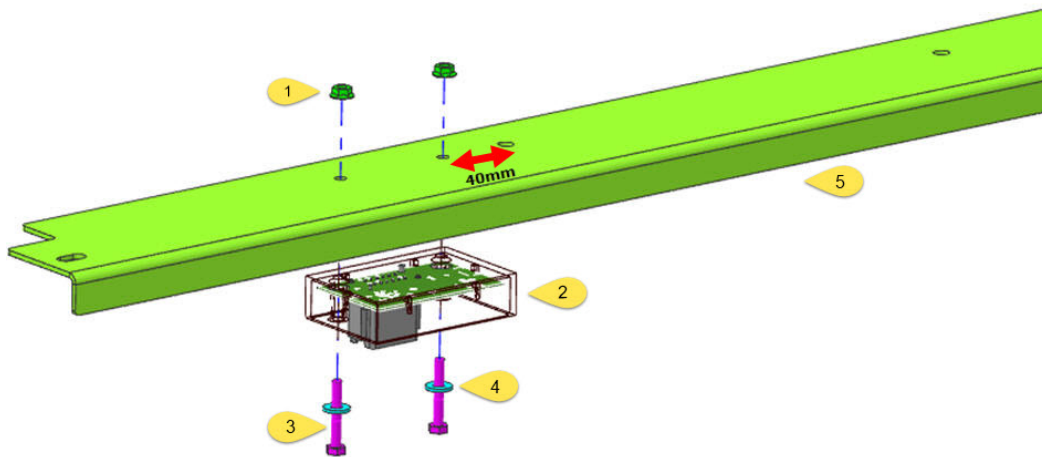

Figure 4 - Power Supply Mounting
- The first hole should be 40mm to the left of the first mounting hole [Figure 4]
- Using the supplied M6 nuts and bolts, mount the power supply to the interior of the harness cover [Figure 4]
3.4.1.1 Part Numbers & Torque Settings [Figure 4]